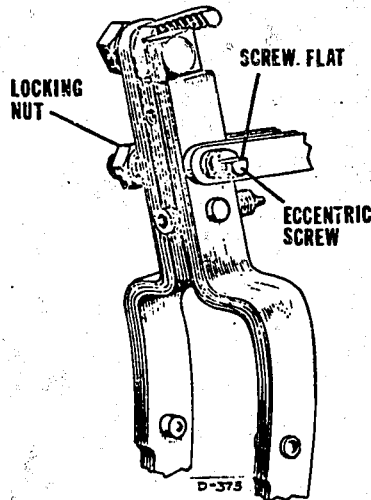

FIGURE 1
- 2.3 The lube oil drain hole (See Figure 1) should be blown out with pressurized air or cleaning fluid.
- 1.2 The feature consists, primarily, of an eccentric connecting link screw and a lock nut (See Fig. 1).
- 2.3 When assembling an adjusting screw to a fulcrum lever, the flat is to be to the right of the smoke cam as shown in Figure 1.
- 2.4 At the start of recalibration, the eccentric screw flat should be in the neutral position; that is, the flat is to be at the top and parallel to the center line of the connecting link (See Figures 1 and 2).